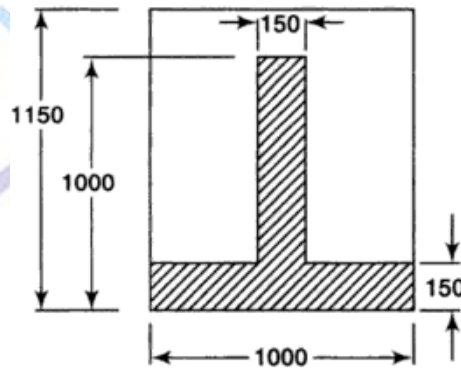

Figure 2
10. A composite beam of rectangular section is made up of a pretensioned inverted T-beam as shown in figure 2 having a slab thickness and width of 150mm and 1000mm respectively. The rib size is 150mm and 850mm. the cast in situ concrete has a thickness and width of 1000mm with a modulus of elasticity of  $30\text{kN/mm}^2$ . If the differential shrinkage is  $100 \times 10^{-6}$  units, estimate the shrinkage stresses developed in the precast and cast in situ units.